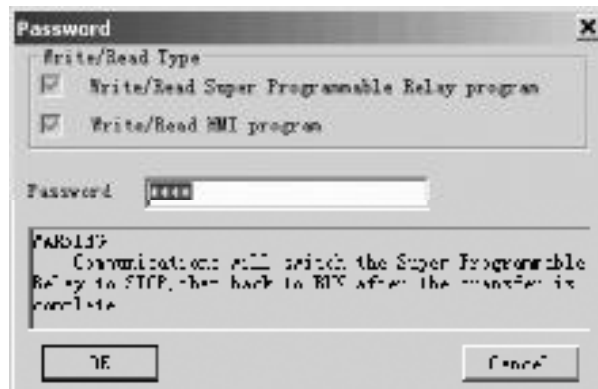

Fig. 4.23 Confirm Password
- c. Click option “PC->Super Programmable Relay” under menu “Controller”; or click button “” in toolbar, dialog box shown as Fig. 4.23, input your password (attn: the original password is 0001).
- a. Click option “Super Programmable Relay->PC” under menu “Controller” with left button of mouse, or click “” under toolbar, dialog box like Fig. 4.23 appears, input your password (Attn: the original password is 0001)